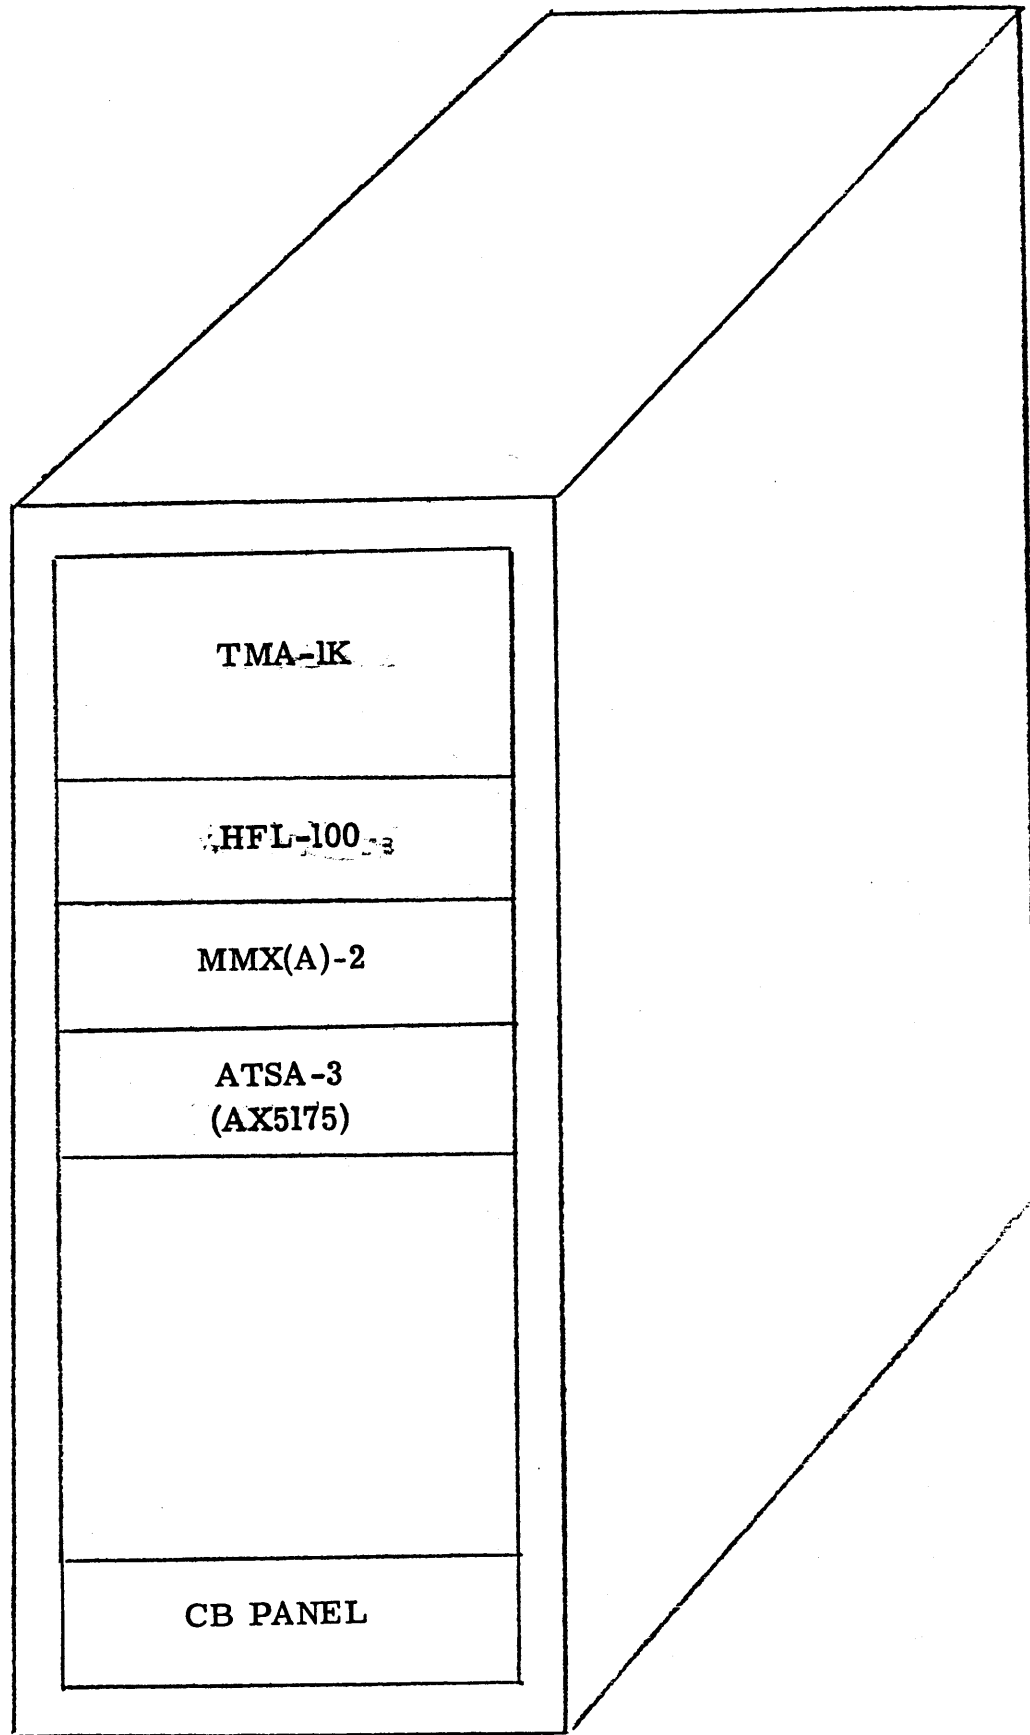

Figure 2-1. Modular Component Location - GPTA-1KJ Transmitter
b. UNIT INSTALLATION. Each of the units which comprise the GPTA-1KJ transmitter is designed to be slide mounted in the rack or cabinet. After completing the unpacking and initial inspection of equipments, carefully slide each unit into position as shown in figure 2-1. Begin the installation with the unit nearest to the cabinet base. The circuit breaker panel, if supplied, is usually not disassembled from the cabinet. No special tools or skill are required to properly position the units but care must be exercised when sliding them into place to avoid any entanglement with installed wiring.